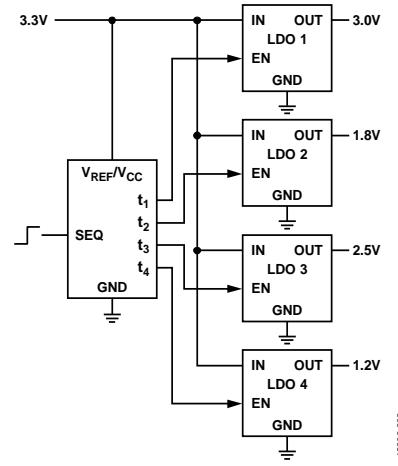

Figure 32. Simplified Block Diagram of a Programmable Sequencing Control Circuit
Figure 32 shows a simplified block diagram for the programmable sequencing control circuit. The application delays the enable signal, EN, of the external regulators (LDO x) in a linear order when the open-drain signal (SEQ) changes from low to high impedance.
To illustrate how the mirrored voltage sequencer works, see Figure 32 and then consider a system that uses a VREF of 1 V and requires a delay of 50 ms when SEQ changes from low to high impedance, and between each regulator when turning on. These considerations require a rise time of at least 200 ms for the pull-up resistor (RPULLUP) and the load capacitor (CL). The sum of the resistance of RMIRROR and RPULLUP must be large enough to charge the capacitor longer than the minimum required delay. For a symmetrical mirrored power-down sequence, the value of RMIRROR must be much larger than RPULLUP. A 10 kΩ RPULLUP value limits the pull-down current to 100 μA while giving a reasonable value for RMIRROR. A typical 1 μF capacitor together with a 150 kΩ RMIRROR value gives a value of